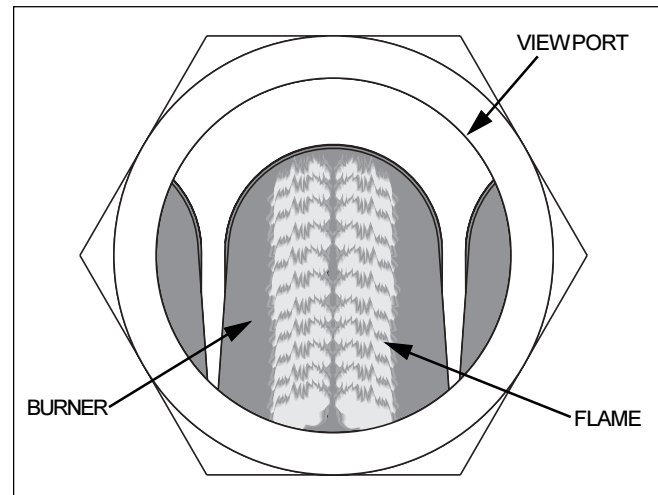
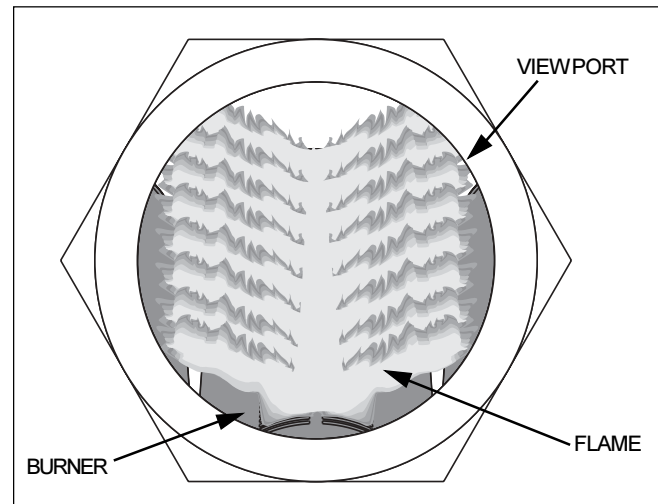

Figure 29. Flame view at low blower speed
Figure 30. Flame view at high speed
12. Make a visual check of the main burner flame. The flame can be seen in a view port on the front panel of the combustion chamber. When the blower is on low speed, the flame should be light blue in color and short (see Figure 29). When the blower is at full (high) speed, the flame will still be light blue in color, but will spread out and up over the burners (see Figure 30).